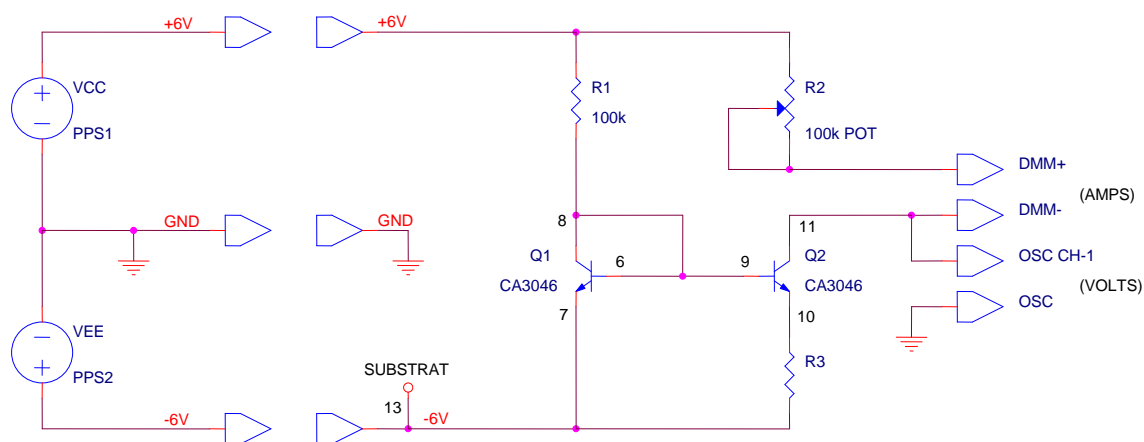

Figure E3.2a
Set-Up On the solderless breadboard construct the circuit of Fig. E3.2a using the following components:
- (a) Calculate the output resistance of the reducing Widlar current source of Fig. E3.2a.